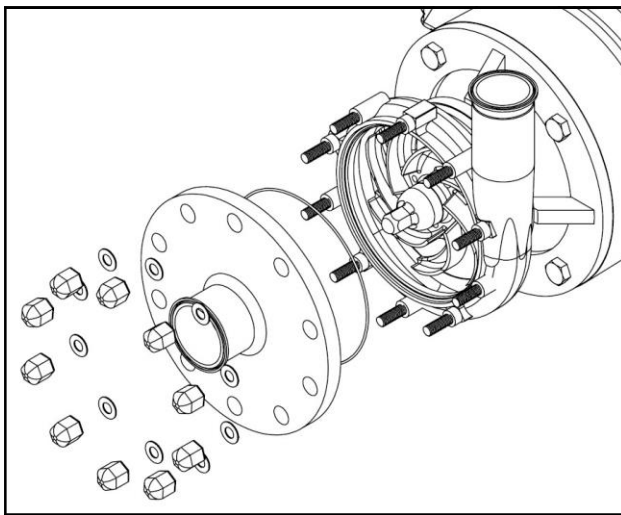

Figure 1
3. Loosen cover nuts with a 1" or 1¼" wrench. Remove cover nuts, flat washers (if provided), lock washers (if provided), cover, and cover gasket. See Figure 1.